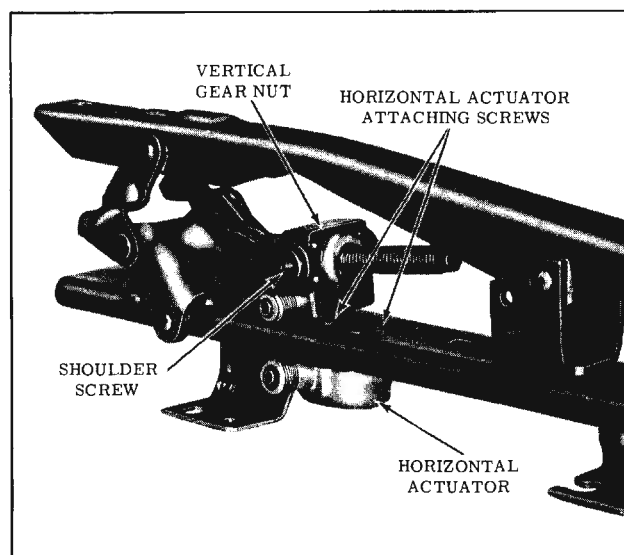

Fig. 16-79 Four-Way Tilt Seat Adjuster
4. Using a clutch type screwdriver, remove shoulder screws securing linkage to vertical gear nut. (Fig. 16-79)
2. Remove screws securing horizontal actuator assembly to adjuster lower track; then remove actuator from adjuster assembly. (Fig. 16-79)